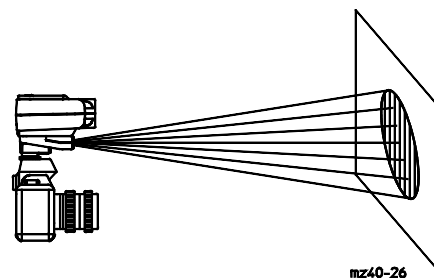

Fig. 25: The AF measuring beam
As the release or other sensory control of the camera is operated, the integrated AF measuring beam ⑦ is automatically activated in the event of low lighting levels or with a low-contrast subject. The measuring beams project a light pattern onto the subject (Fig. 25). The camera's autofocus system uses the light reflected from the subject to measure image sharpness and focus the lens. The range of the AF measuring beam ⑦ is approx. 9 m with a 50 mm f/1.7 lens.